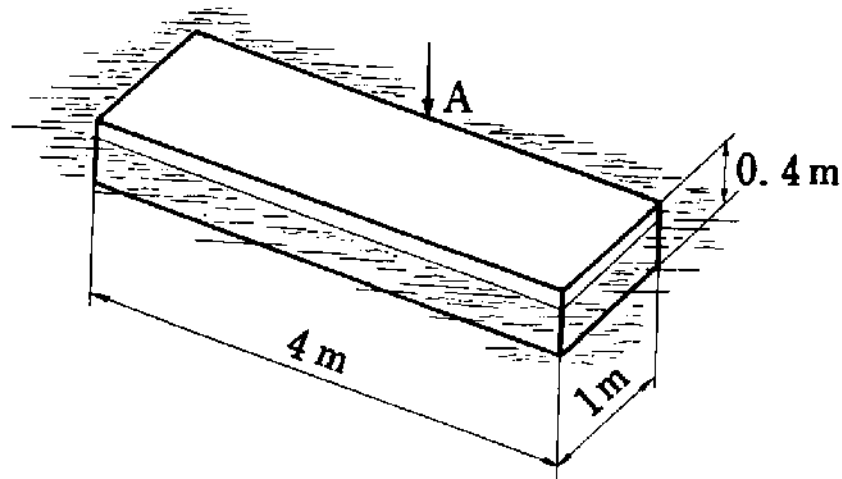

Fig. 3.30
12. As shown in Fig. 3.30 a body of specific gravity 0.8 is floating on the water. Obtain the height of its metacentre and the period of vibration whenever its side A is perturbed.6 The effect of the additional mass of water can be omitted.